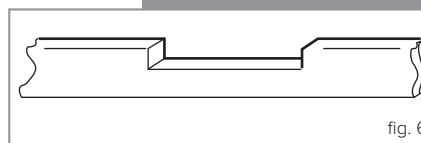

fig. 6
4. Where a continuous plinth is to be used, it is necessary cut a section out so that the ventilation slots at the front of the appliance are not obstructed in any way fig 6.